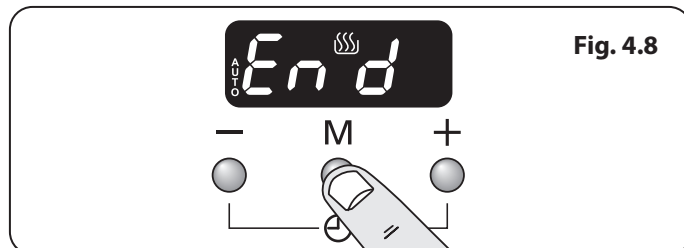
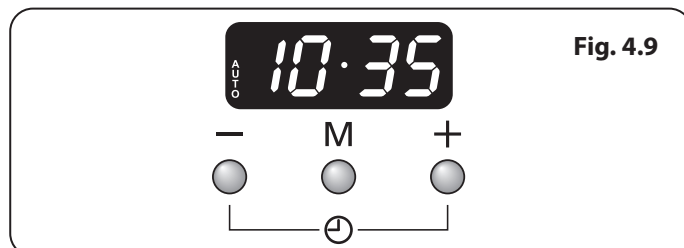

Fig. 4.8
Fig. 4.9
- Press the mode [M] button until the display flashes 'End' (**Fig. 4.8**). Then set the 'stop time' using the [+] or [-] buttons. Current time will be displayed along with the word 'AUTO' (**Fig. 4.9**).